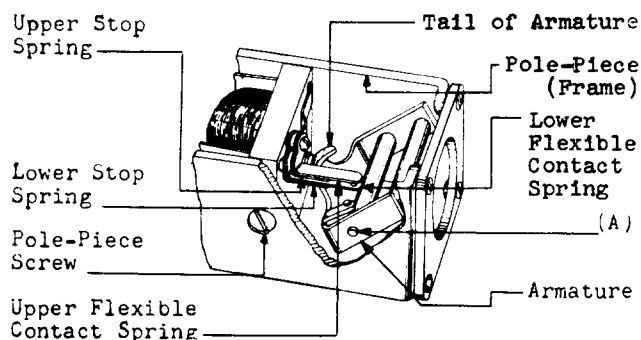

Fig. 1 — 186-Type Relay
2.03 *Armature Movement*: Fig. 1(A) — The armature shall move freely in its bearings and shall not bind against any other part of the relay.
2.07 Armature Clearance: Fig. 1 — With the armature in its operated position, there shall be a clearance between the armature and the lower stop spring of minimum 0.008 inch.